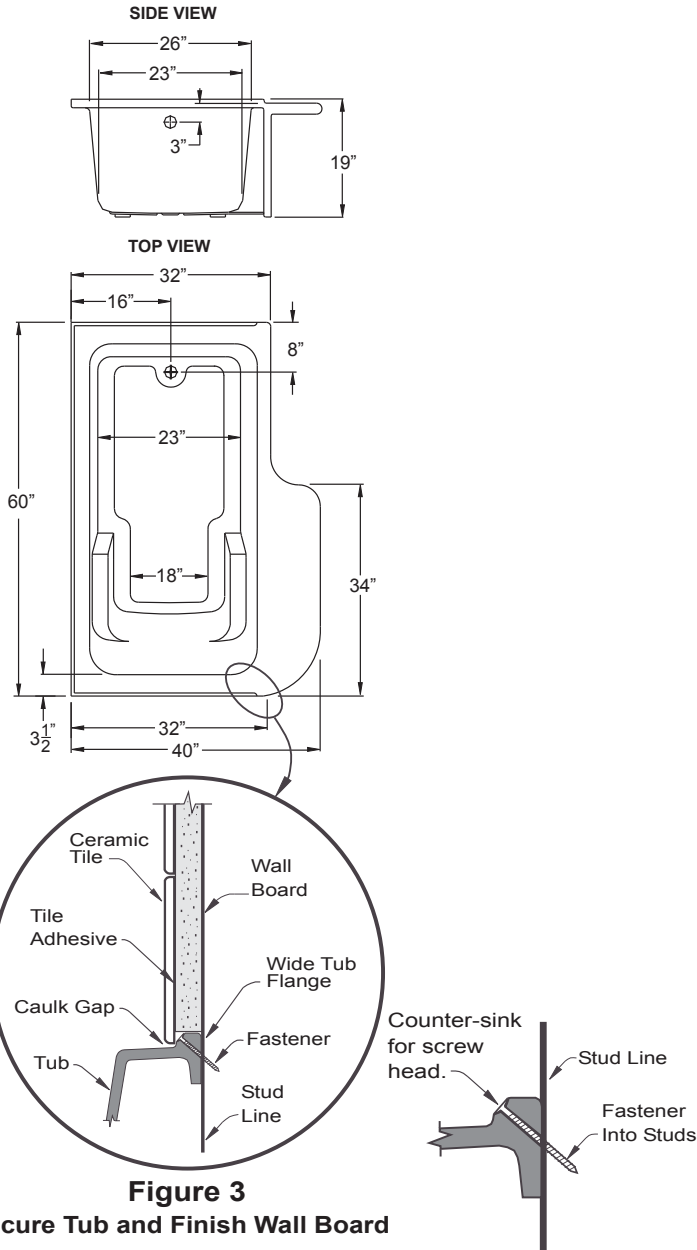

Figure 3
2. Review Figure 3 and dimensioned bathtub diagrams to make sure alcove is of proper size. If a fire rated alcove is required, approved finish material must be installed prior to unit installation. Access to drain and supply connections should be provided so that these connections may be made after the unit has been installed. Framing alcove must reflect dimensions on diagram to permit installation of unit. Note in diagram the required opening in the floor to provide clearance for the drain trap and fitting connection.
See Figure 3 for details on mounting the bathtub and wall board installation and finishing.
See Figure 3 for details on wall board and finishing - Drill pilot holes at an angle through the wide flange at stud locations. Counter-sink so fastener head is recessed into the wide flange. Install fastener into each stud. Figure 3 diagrams a suggested wall finishing method using ceramic tile to conceal the flange and fastener. Caulk all seams between finished wall and bathtub.